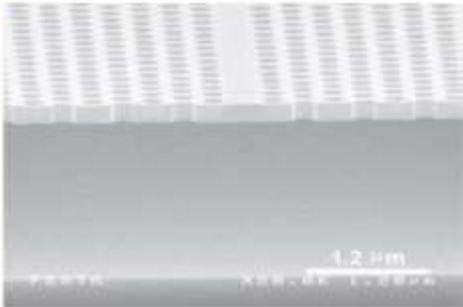

Figure 6: SEM image of a waveguide formed by a missing row of holes in a suspended-membrane hole slab
- **Practical Application:** A fabricated example of this type of waveguide, specifically a suspended membrane, is displayed in figure 6.